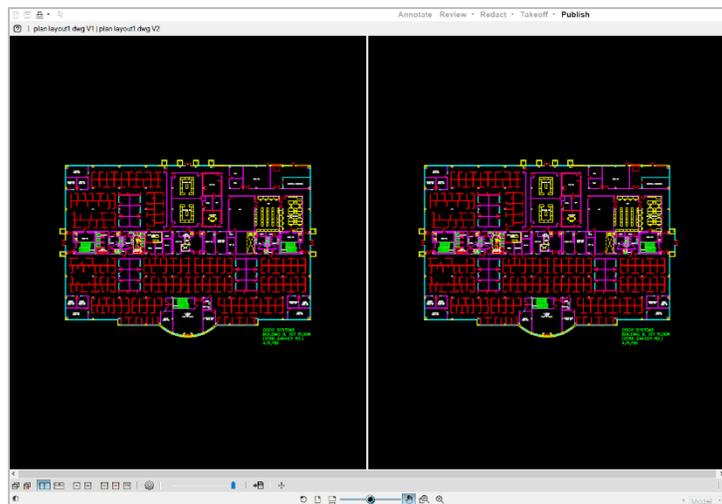

Figure 22.2 Plan Layout1.dwg Versions Side-by-side Comparison
- 8) The selected files will display in *Side-by-Side* view as in Figure 22.2